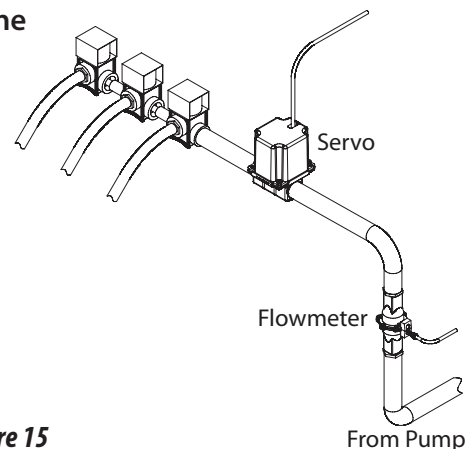

Figure 15
**NOTE:** For Inline operation, the servo valve is installed in the main spray line as shown in Figure 15.